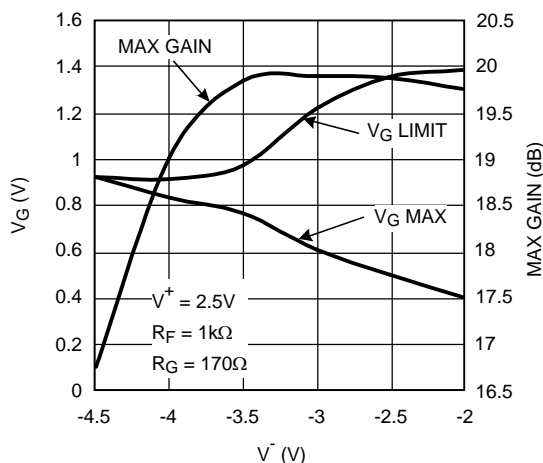

Figure 67.  $V_{G\_MAX}$ ,  $V_{G\_LIMIT}$ , & Max-gain vs.  $V^-$  ( $V^+ = 2.5V$ )
- a)  $V_G$  range constricts. Referring to Figure 67, note that  $V_{G\_MAX}$  ( $V_G$  voltage required to get maximum gain) is  $0.5V$  ( $V_S = \pm 2.5V$ ) compared to  $1.0V$  for  $V_S = \pm 5V$ . At the same time, gain cut-off ( $V_{G\_MIN}$ ) would shift to  $-0.5V$  from  $-1V$  with  $V_S = \pm 5V$ .
- b)  $V_{G\_LIMIT}$  (maximum permissible voltage on  $V_G$ ) is reduced. This is due to limitations within the device arising from transistor headroom. Beyond this limit, device performance will be affected (non-destructive). Referring to Figure 67, note that with  $V^+ = 2.5V$ , and  $V^- = -4V$ ,  $V_{G\_LIMIT}$  is approaching  $V_{G\_MAX}$  and already "Max gain" is reduced by 1dB. This means that operating under these conditions has reduced the maximum permissible voltage on  $V_G$  to a level below what is needed to get Max gain. If supply voltages are asymmetrical, reference Figure 67 and Figure 68 plots to make sure the region of operation is not overly restricted by the "pinching" of  $V_{G\_LIMIT}$ , and  $V_{G\_MAX}$  curves.
- c) "Max\_gain" reduces. There is an intrinsic reduction in max gain when the total supply voltage is reduced (see Figure 43). In addition, there is the more drastic mechanism described in "b" above and shown in Figure 67.